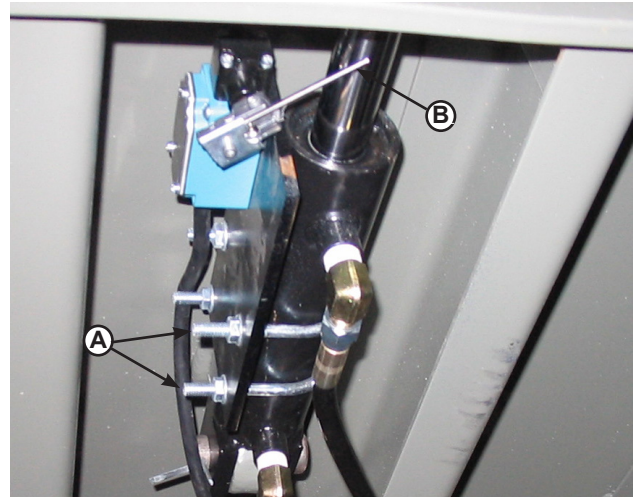

Figure 29
3. Press the RAISE button. The dock leveler should NOT raise. If the leveler did not raise, proceed with step 4. If the leveler did raise, loosen U-bolts (A) and adjust microswitch mounting plate forward so that switch feeler arm (B) is engaged by leveler lip when stored. See Figure 29.
6. Press the RELEASE button. The vehicle restraint should NOT disengage from the transport vehicle RIG bar or test fixture. If the vehicle restraint did NOT engage, proceed with step 7. If the vehicle restraint DID disengage, loosen U-bolts (A) and adjust microswitch mounting plate backward so that switch feeler arm (B) is not engaged by leveler lip in below-dock position. See Figure 29.